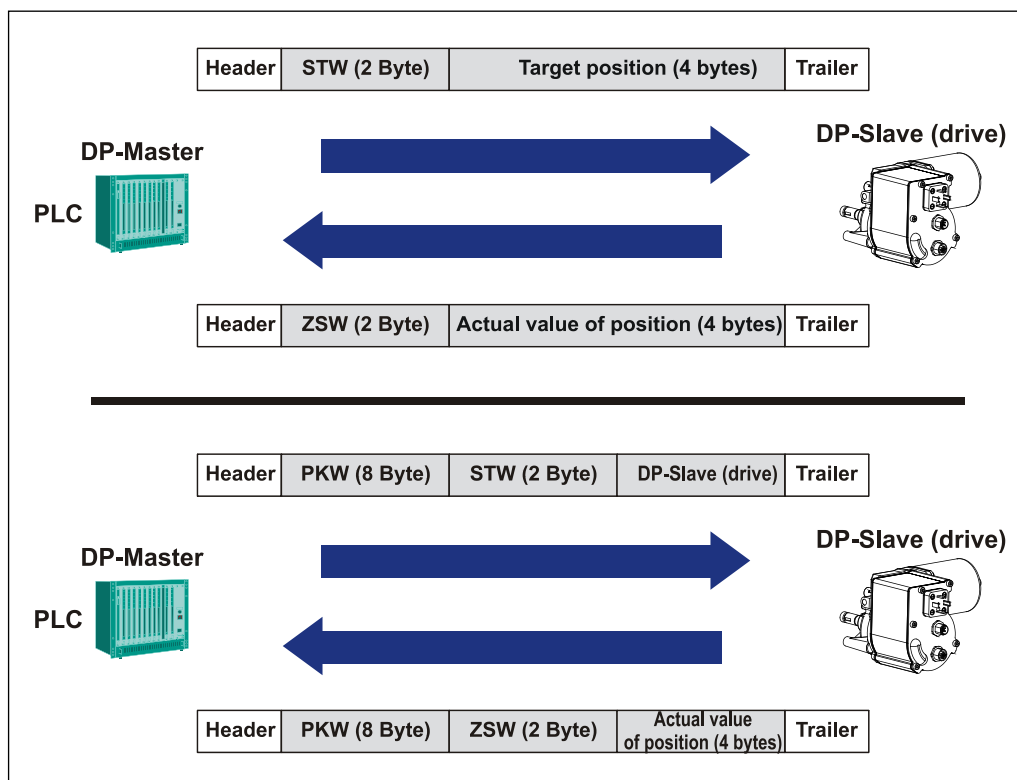

Figure 2: Cyclic communication with PKW channel (bottom) and without (top)
Figure 2 shows the telegrams, which are exchanged between DPM1 and slave as part of the cyclic data traffic. At the same time, the control word and target position are transmitted from the DPM1 to the slave as process data, and, in the opposite direction, the status word and the position value.
(cf. Figure 2, Page 83)
2. PKW channel, PZD: as in 1. (cf. Figure 2, Page 83)